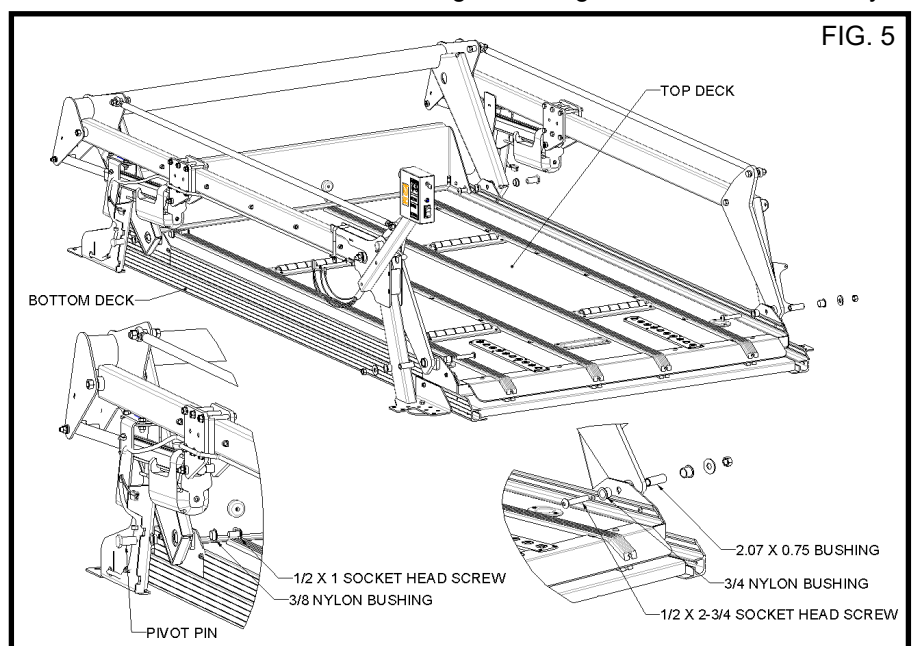

FIG. 5
6.16 Place blocks on top of the bottom deck for the top deck to rest on during installation. Place the top deck in the vehicle on top of the blocks. (FIG.5) Insert the nylon and steel bushings into the sleeves at the ends of the torsion bar arms, and the rear swing arms.